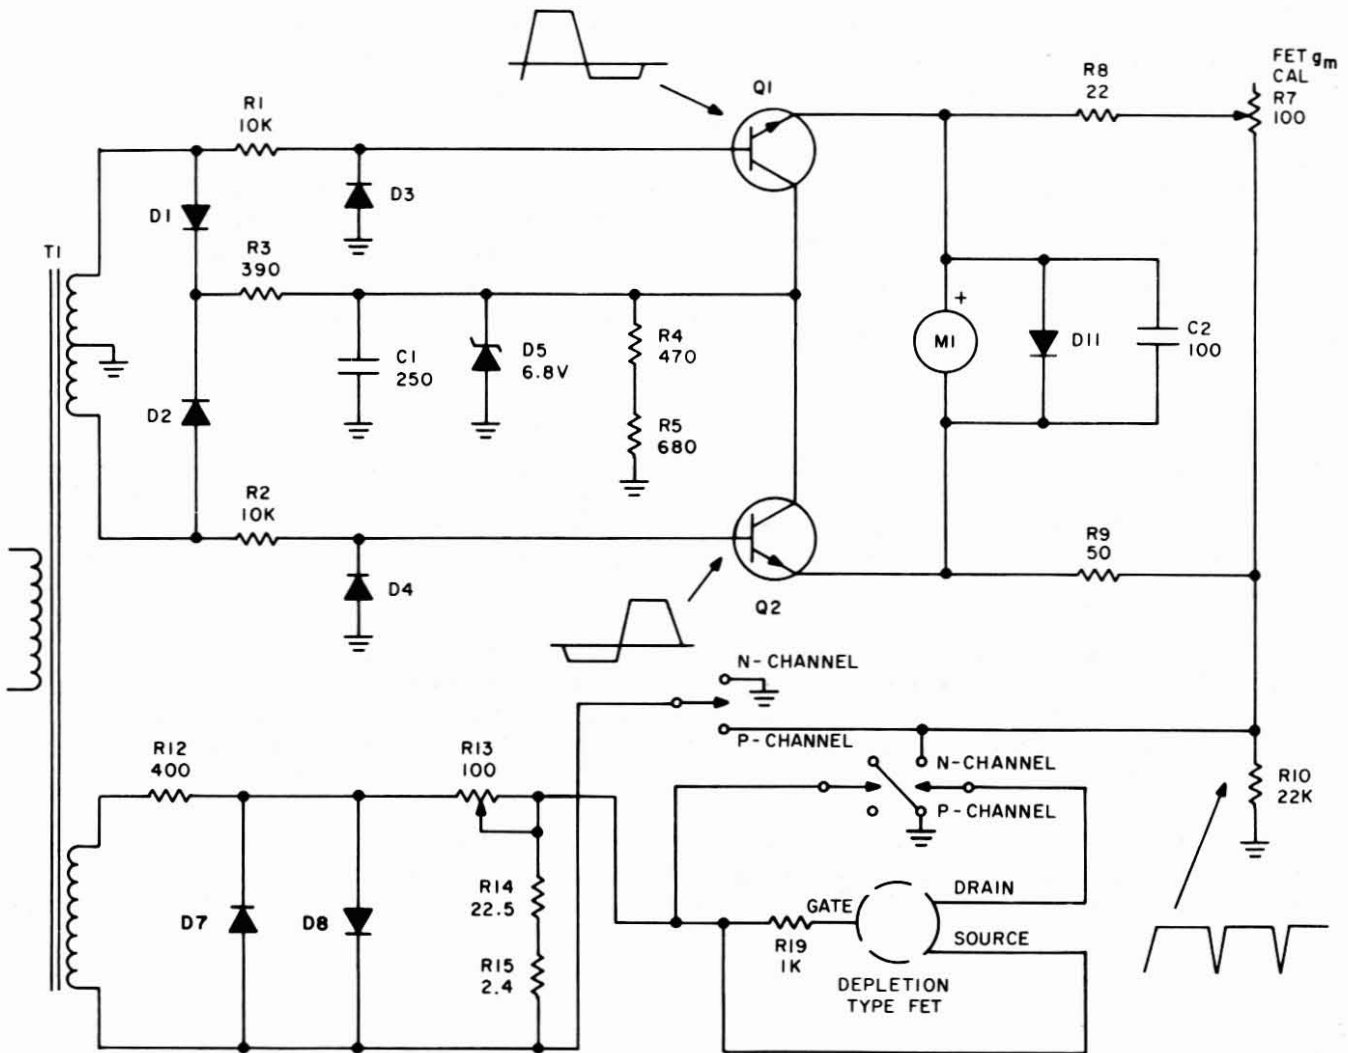
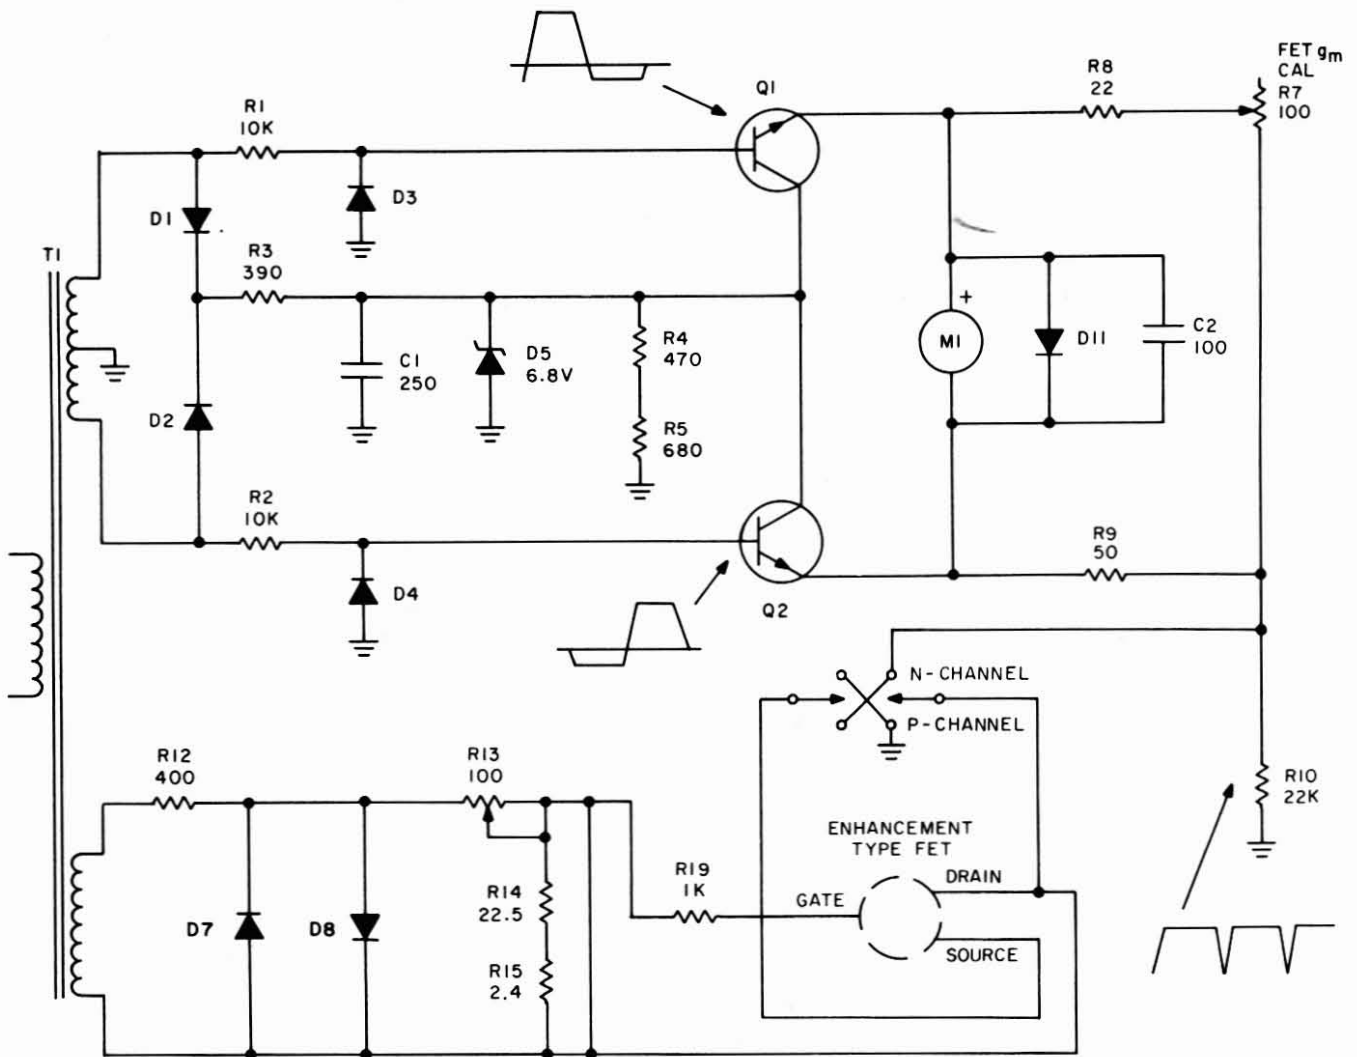

Figure 1A. g_m CAL Circuit, Depletion Mode FET
Figure 1B. g_m CAL Circuit, Enhancement Mode FET
a. FET g_m Calibration (See figures 1A and 1B.)
When the front panel FET FUNCTION switch is set to the g_m CAL position and a depletion mode FET is being tested, the gate of the FET under test is shorted to the source via R19 (figure 1A). For enhancement mode FET's, the gate is similarly shorted to the drain via R19 (figure 1B). Therefore, the drain current of the FET is controlled mainly by the drain voltage pulses applied from the Q1-Q2 switching circuit. The FET g_m CAL control R7, is adjusted so that equal currents flow through the meter on alternate half cycles. Since equal current flows in both directions, when adjusted, balancing the circuit produces a zero meter reading. This calibrates the FET g_m circuit.